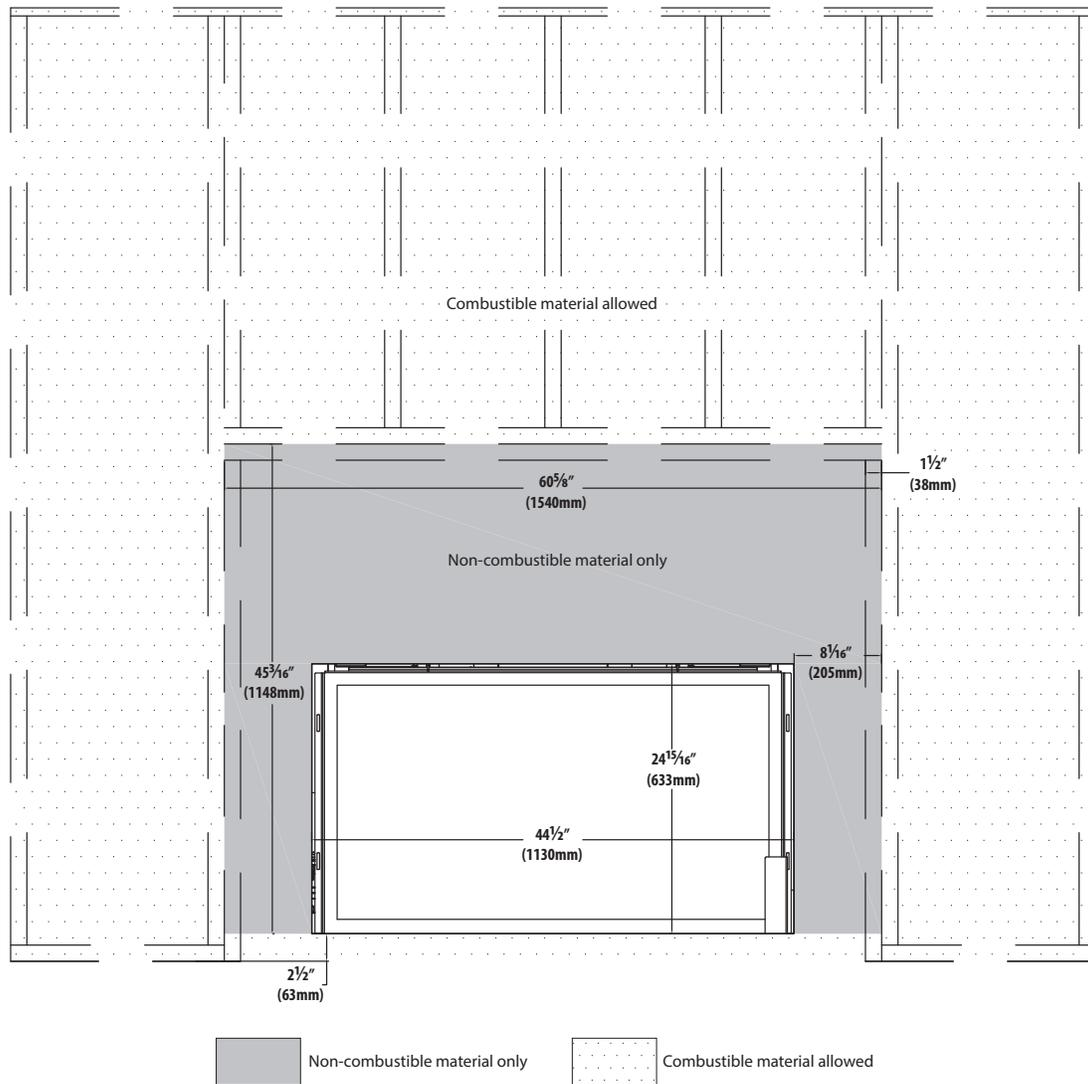

Figure 4.5, Minimum Finishing Dimensions
- Non-combustible material is required at the top and sides of the fireplace. This fireplace is designed to accommodate non-combustible facing material up to 1/2" (13mm) thick. See Figure 4.5 on page 34 for dimensions.
- Non-combustible material is required at the top and sides of the fireplace. This fireplace is designed to accommodate non-combustible facing material up to 1/2" (13mm) thick. See Figure 4.5 on page 34.
- It is acceptable to pre-drill holes and to use self-tapping screws prior to attach the non-combustible material to the top and sides of the fireplace face, screws can only penetrate the fireplace outer shell up to 1/2" (13mm) in the allowed areas. See Figure 4.5 on page 34.